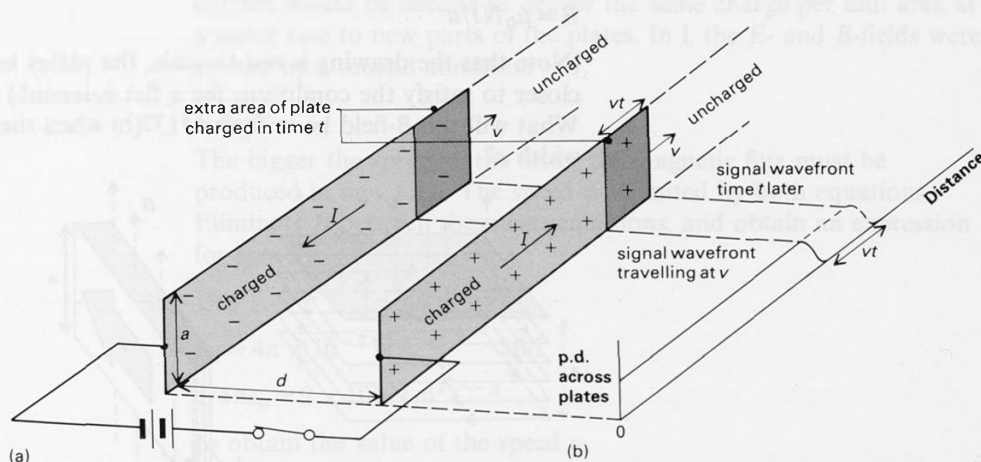

Figure J135
- 42(L)** This question is about the speed of an electrical signal along a pair of long, flat conducting plates (see figure J135). It is very similar to the geometry of the 'guided' or 'tied' wave demonstration J18a and question 36, but the gap between the plates is very much smaller than their width, so that any length of the plates behaves like a parallel plate capacitor. The electrical signal applied to the guide is not oscillatory but merely a step pulse produced by switching on a battery across one end. This electrical signal travels at speed v leaving behind a charged region – the left plate is negatively charged and the right positively charged.